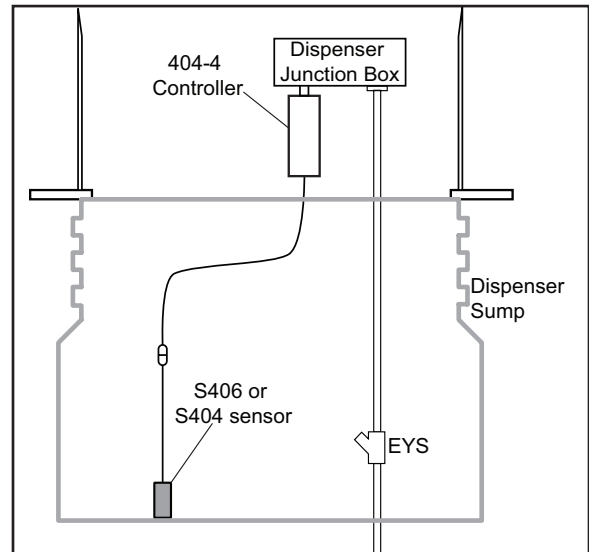

Figure 2: System Installed in Dispenser Sump
8. Place the sensor into the bottom of the sump at the level to cause dispenser shutdown (Figure 2). Remember that the unit will shut down when the sensor detects liquid.